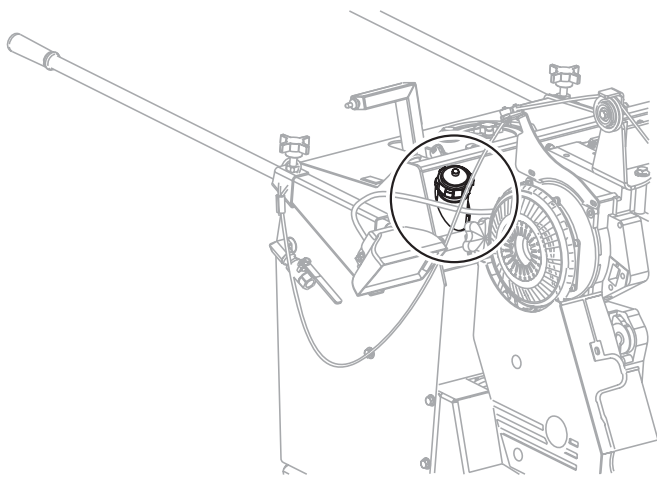

Figure 22. Fuel Gauge
1. Determine if the engine fuel is low. ( Figure 22)